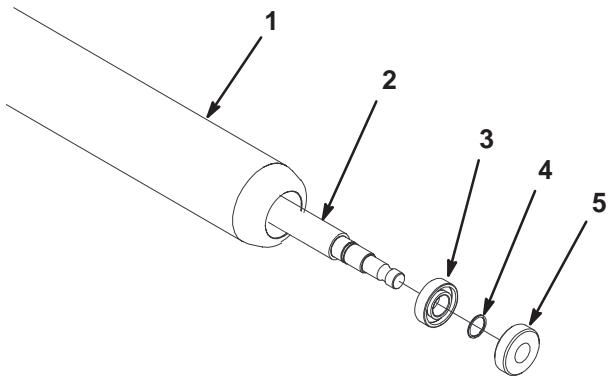

Figure 17
1. Remove spiral retaining ring (Fig. 17). Catch removal notch with pick and pull ring off shaft. Repeat on other end.